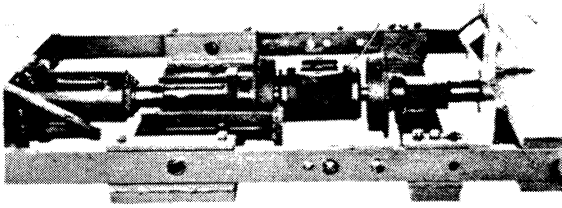

FIG. 5
4. Start the two flanges on the ends of the shaft and place support roller in the press as shown in Fig. 5. Block between one flange and the end-plate of the press and use an adapter between the jack and the other flange which will contact the flange rather than the shaft. Then press on both roller flanges until the flange hub faces are even with ends of shaft.